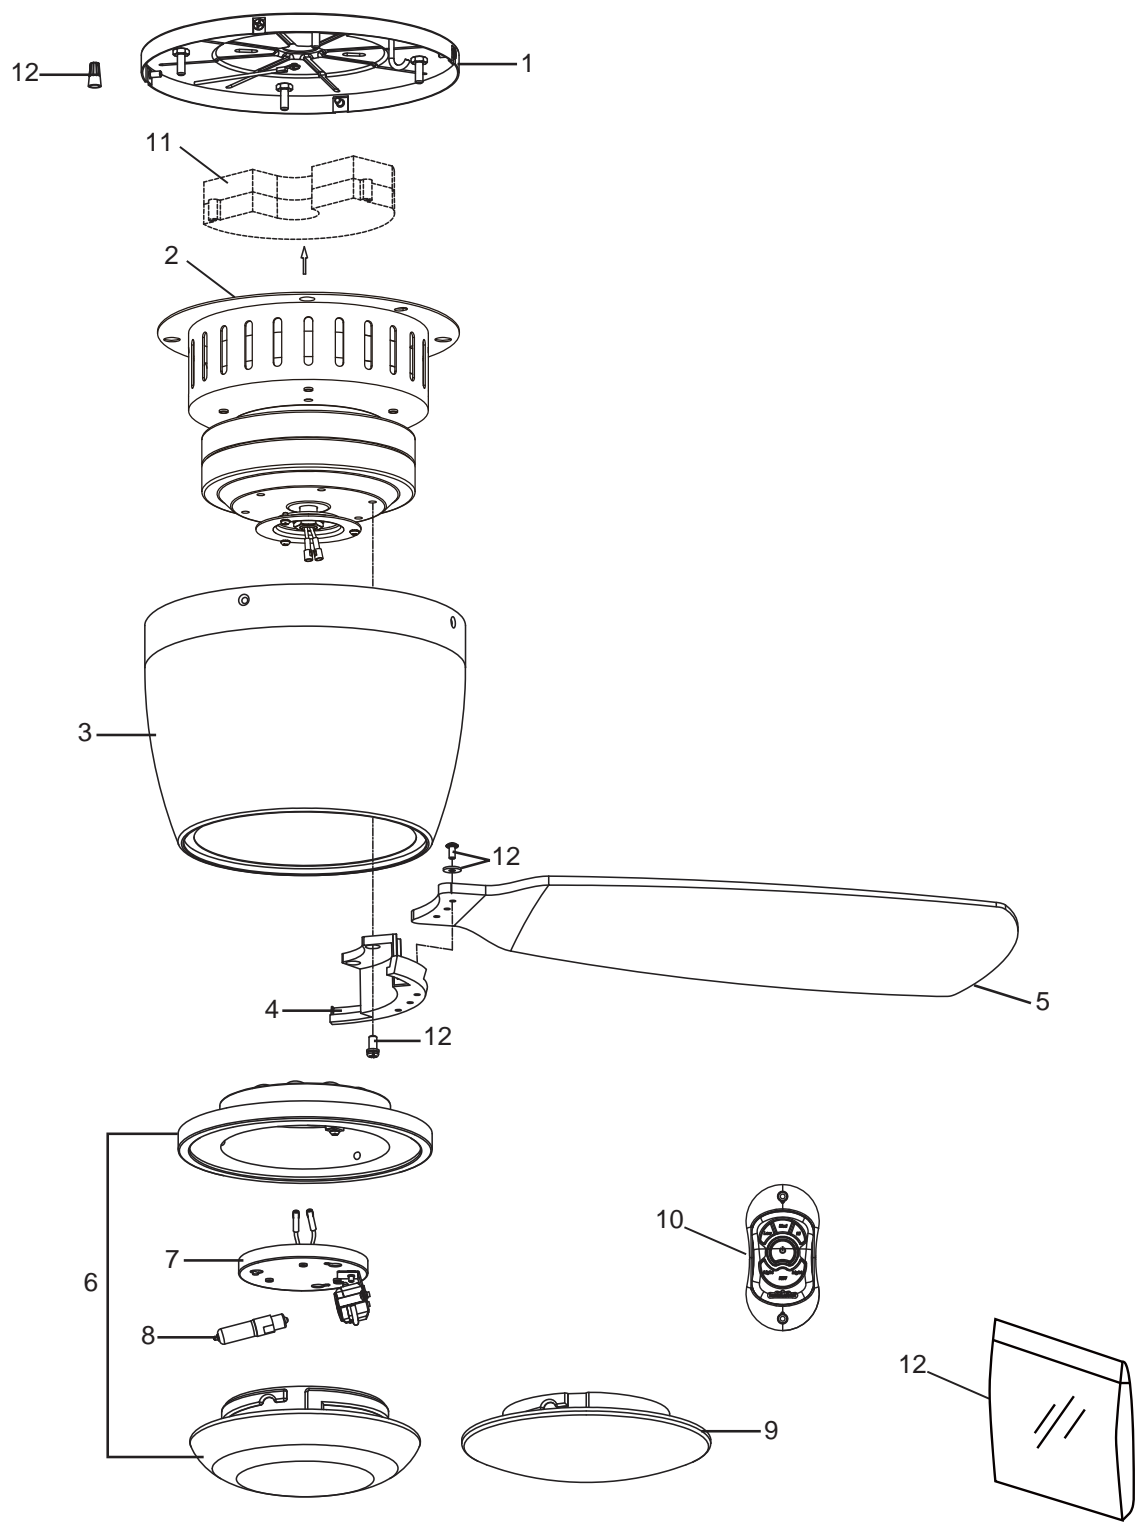

Figure 1
1. Assemble the motor assembly to ceiling bracket assembly using the previously removed hex nuts and flat washers and securely tighten all hex nuts. (Figure 1)
1. Position the blade over the blade holder with threaded posts showing. Make sure the bottom edge of the blade is fully seated against the blade holder. With a phillips screwdriver, tighten 3/16"-24 x 14 mm washer head screws and fiber washers to secure the blade to the blade holder. (Figure 1)
1. Remove one of the three screws in the support bracket at the bottom of the motor assembly. Slightly loosen the remaining two screws. Assemble the light plate assembly to the support bracket using the two key slots in the light plate. Replace the third screw and securely tighten all three screws. (Figure 1)
- 1.** Operating and using hand-held remote (Figure 1):
1. Unthread two screws from the wall switch plate. (Figure 1)
1. Drill the two 1/4" holes in wall and use the M6 plastic anchor pushed into the holes. Install the control bracket with two #3- 1" self tap screws. Push the four plastic plugs in to cover the screw holes. (Included in the control packaging). (Figure 1)